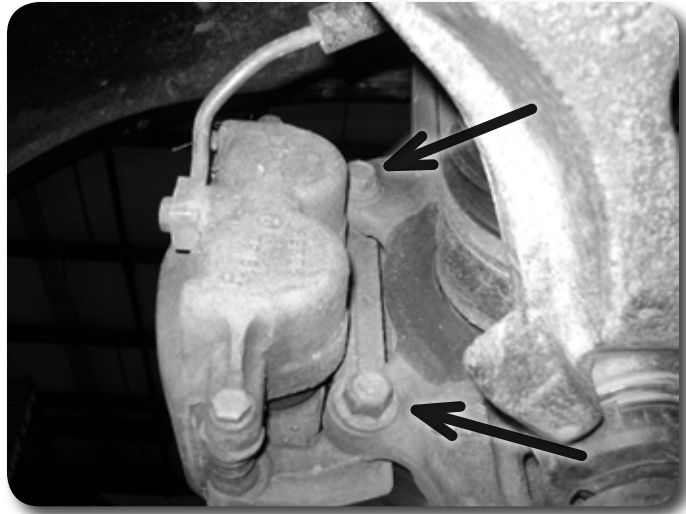

Figure 6
16. Remove the brake caliper anchor bracket bolts and remove the caliper from the knuckle **Figure 6**. Hang the caliper out of the way. Do not let the caliper hang by the brake hoses.